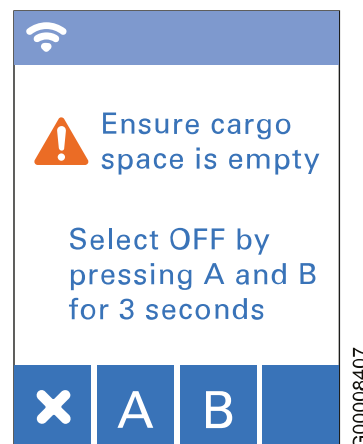

Fig. 37 Turn temperature control off
2. Press  to select **Temp Control Off**. The display will show the text in **Fig. 37**.